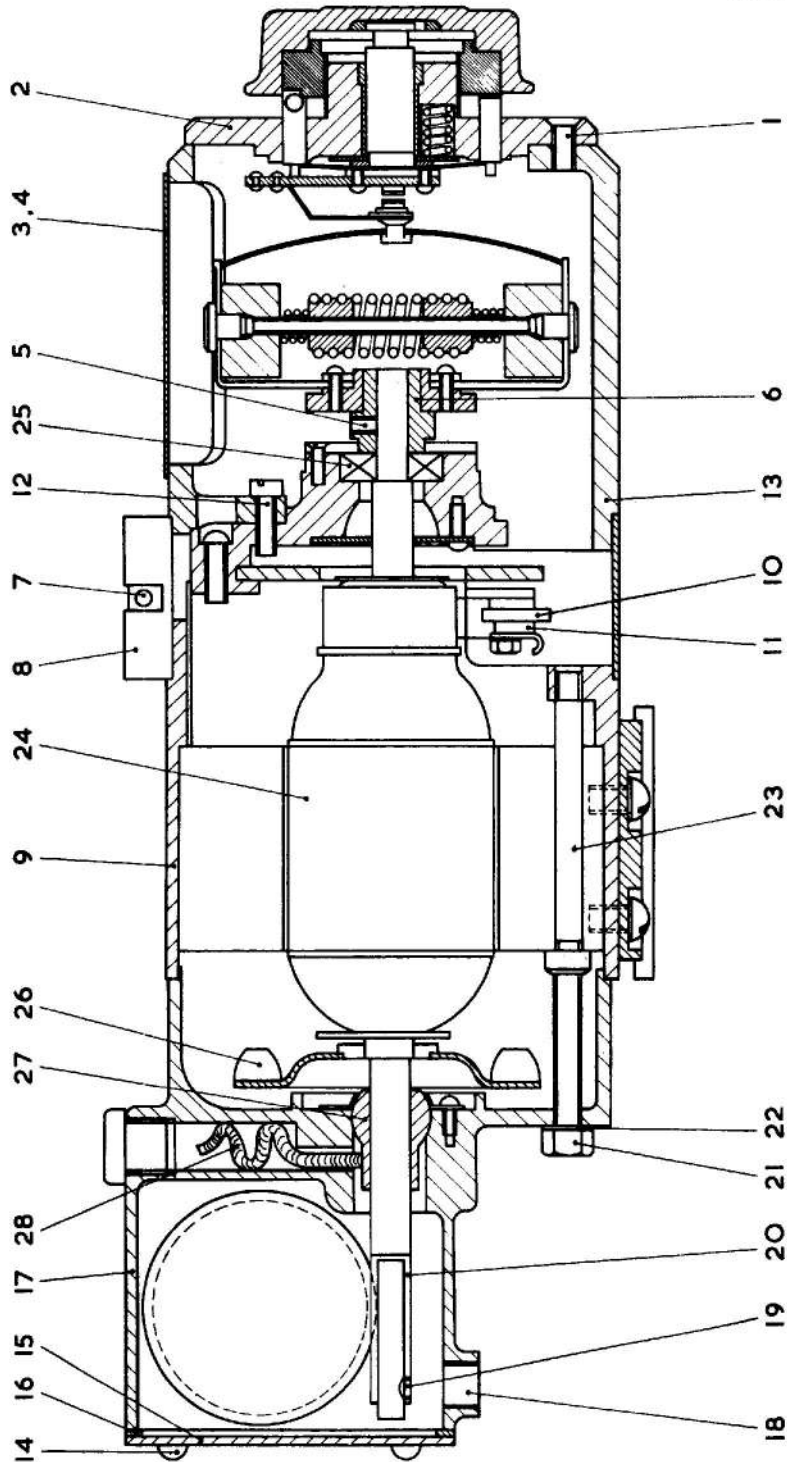

Fig.6. Sectional view of gearbox motor
13. To dismantle the motor for the removal of the armature proceed as follows:- (fig.6)
KEY TO FIG.6